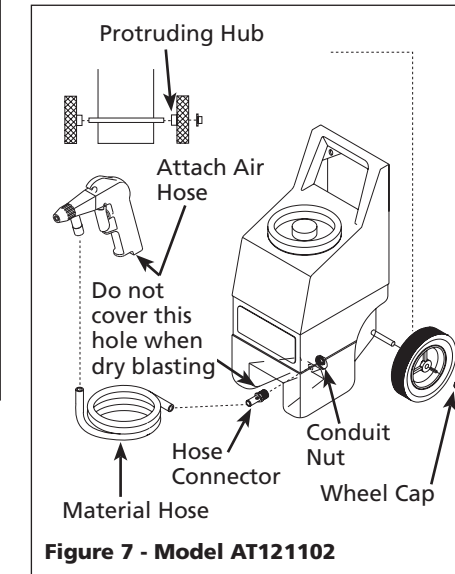

Figure 7 - Model AT121102
1. Slide the wheel onto the axle. (See Figure 7). Lightly hammer on the wheel cap to secure, making sure the protruding hub on the wheel is facing the hopper. Repeat for the opposite side.
3. Attach the material hose to the hose connector. Attach the opposite end of the material hose to the gun (See Figure 7). Never use hose clamps to secure the hose.